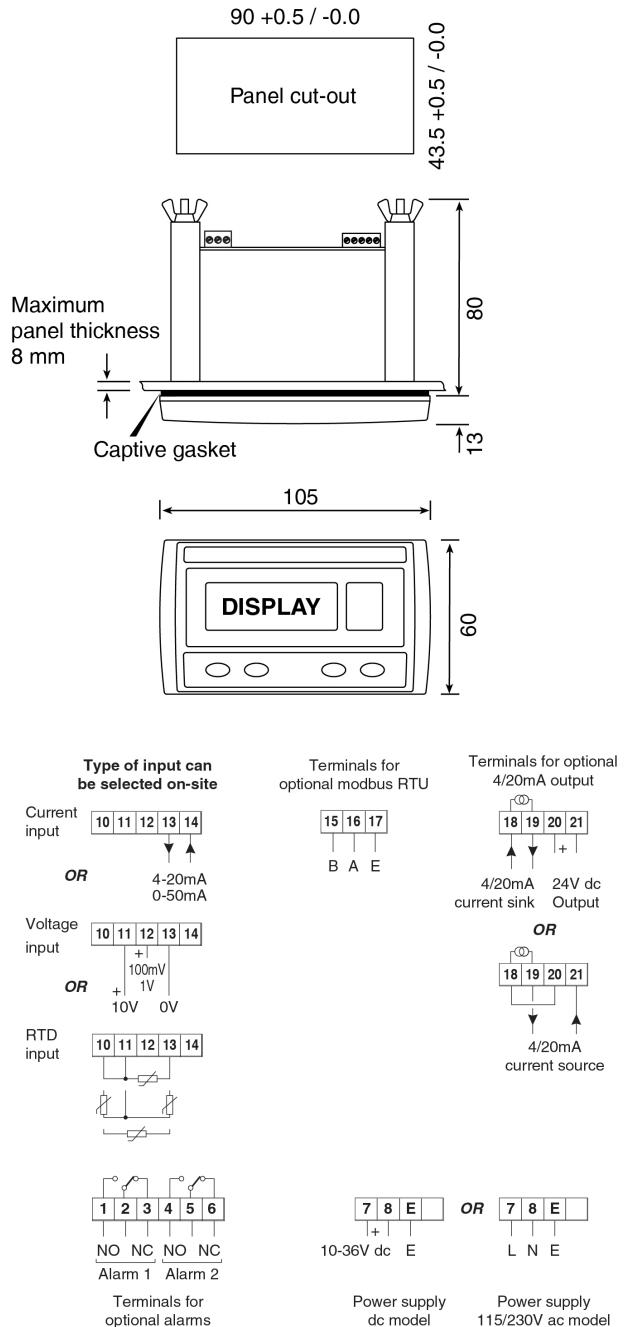

Fig 6 A90-SS meter dimensions and terminals
The A90-SS panel meter can measure current and voltage process signals and display them in meaningful engineering units. The meter can also display temperature in a variety of formats from a Pt100 resistance thermometer primary element. Selection of the input type is made within the configuration menu which is described in section 5 of this manual. Input terminals also vary for different inputs as shown in Fig 6.
Fig 6 shows the overall dimensions of the instrument together with the recommended panel cut-out dimensions to achieve an IP66 seal between the instrument enclosure and the instrument panel.
Fig 6 show the overall dimensions of the indicators together with the recommended panel enclosure cut-out dimensions.
- Cut the aperture specified in Fig 6 in the panel enclosure. Ensure that the edges of aperture are de-burred.